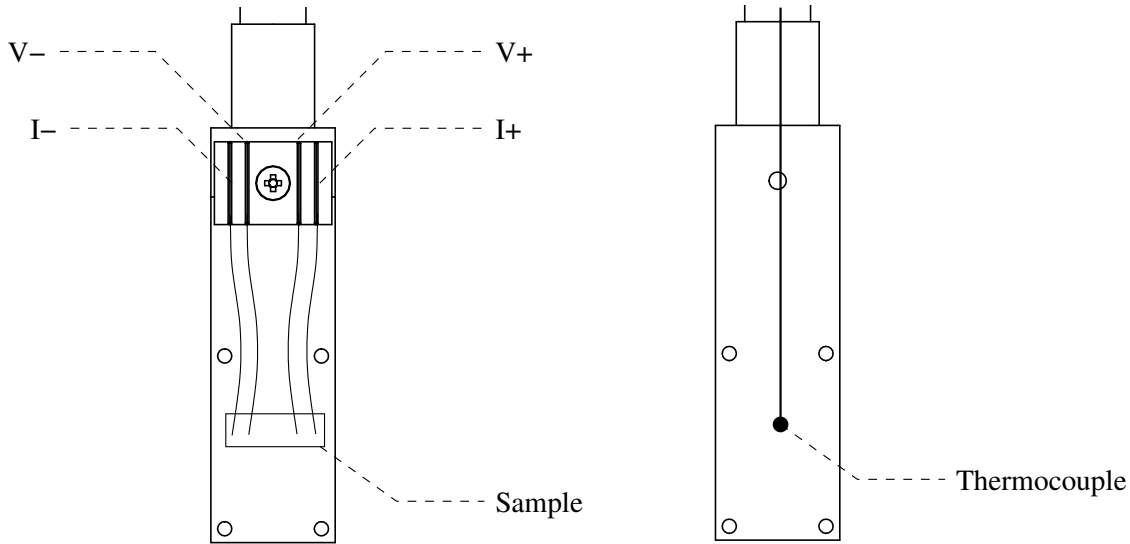

Figure 2.1: Sample mount for  $I$ - $V$  and  $R$ - $T$  measurement
- Paste the sample on the sample mount as shown in Figure 2.1. Position it as close to the thermocouple as possible to avoid lag in temperature readout.